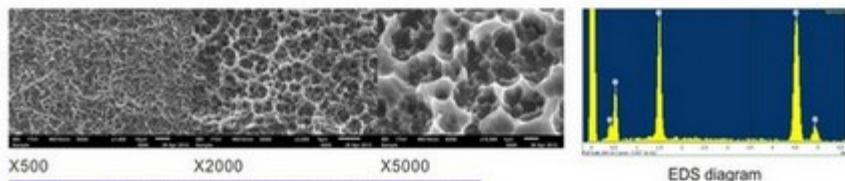

Figure 1. Surface Treatment of Anker Dental Implants with individual magnifications
- 1 Following the unique sandblasting, large grit , acid-etched is tended to increase the roughness of the surface and amplify BIC (Bone-Implant Contact). Surface roughness evolves a better consequence after treatment accordingly to SEM Figure 1 is even better than those leading peers. The surface roughness increased 39% after S.L.A treatment, further eases the attachment of Osteocyte, and boost Osseointegration.